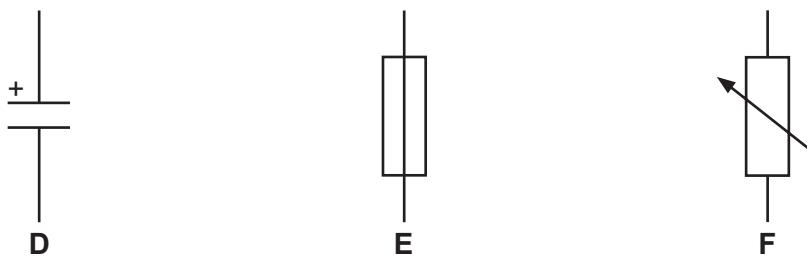

Fig. 9.1
- 9 Fig. 9.1 shows three symbols used in electronic circuits.